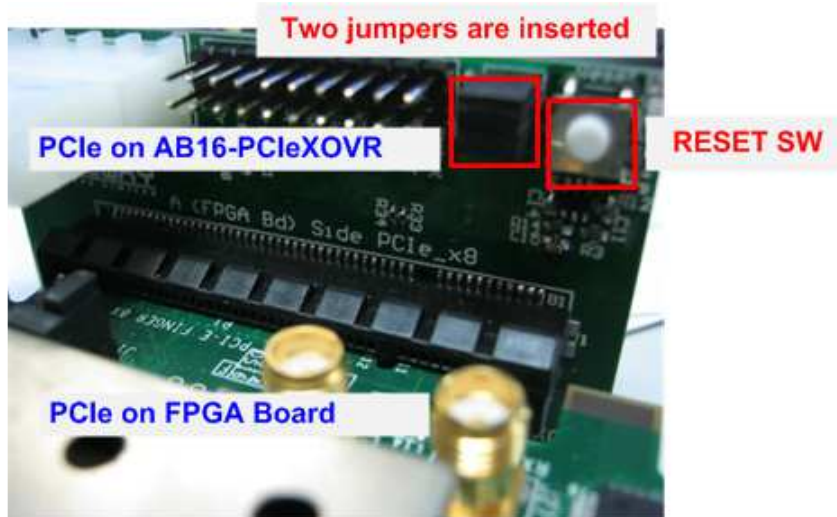

Figure 2-4 Connect PCIe connector between AB16 and FPGA board
- 4) Connect A Side of PCIe connector on AB16-PCIeXOVR board to PCIe connector on Xilinx development board, as shown in Figure 2-4. Also check that two mini jumpers are inserted at J5 connector on AB16.